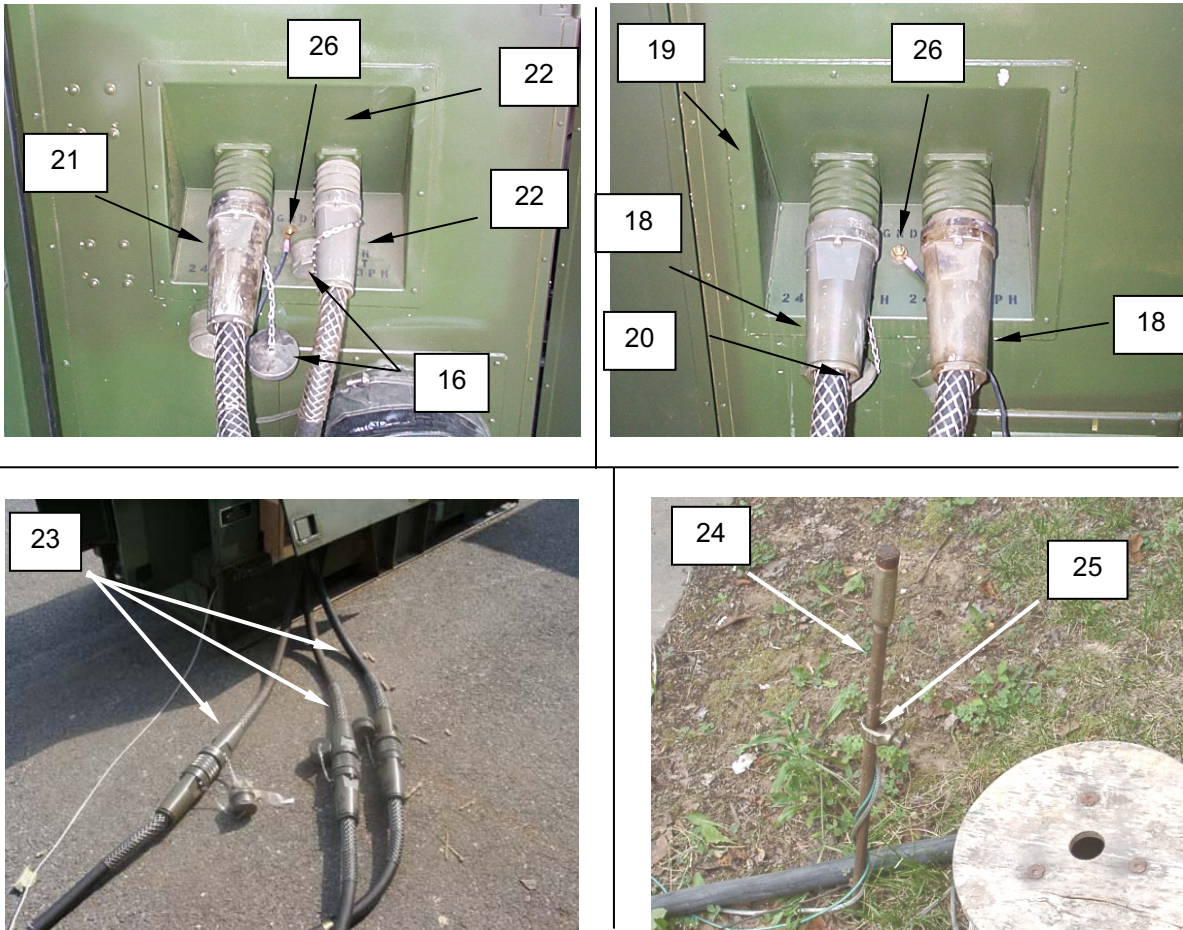

Figure 21. Prepare Power Distribution System for Movement.
2. Disconnect the two 100 A cables (**Figure 21, Item 18**) from the dryer power service panel (**Figure 21, Item 19**). Install dust caps (**Figure 21, Item 20**) on cables and service panel. Coil cables and set aside for packout.
3. Disconnect the 100 A cable (**Figure 21, Item 21**) from the main power service panel (**Figure 21, Item 22**). Install dust caps (**Figure 21, Item 20**) on cable and service panel. Coil cables and set aside for packout.
4. Disconnect the 60 A cable (**Figure 21, Item 22**) from the main power service panel. Install dust caps (**Figure 21, Item 20**) on cable and service panel. Coil cables and set aside for packout.
5. Disconnect three pigtail connectors (**Figure 21, Item 23**) from generator or municipal power source. Coil cables and set aside for packout.
6. Remove ground rods (**Figure 21, Item 24**) and disconnect ground wires (**Figure 21, Item 25**) from both electrical service panel grounding studs (**Figure 21, Item 26**).